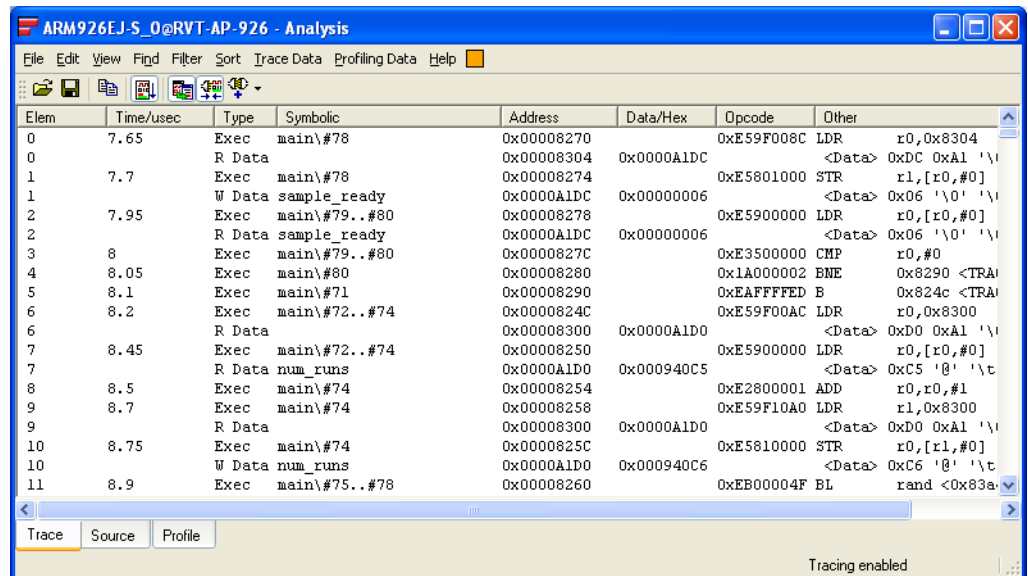

Figure 10-45 Data/Hex column displayed in the Analysis window
9. Select **Trace Data** → **Data Value in Hex** from the Analysis window menu to display the Data/Hex column. You might have to scroll down again to see the start of main. Figure 10-45 shows an example: